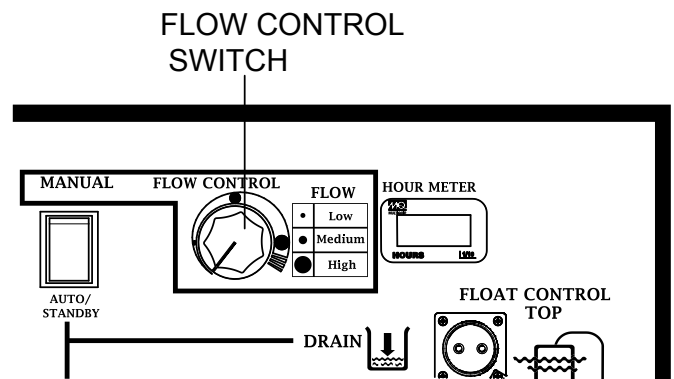

**Figure 11. Starter Switch (START)**
2. Turn the starter switch to the **START** position (Figure 11).
3. Turn the starter switch to the **START** position (Figure 11).
- Turn the starter switch to the **START** position (Figure 11).